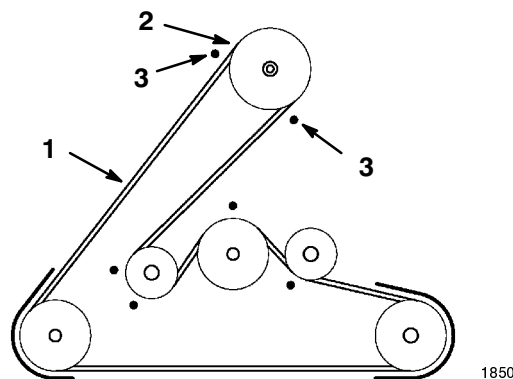

Figure 43
4. Install mower belt onto the lower engine pulley (Fig. 43). If you are careful, you can flex the belt guide(s) just far enough away from the pulley to install the belt. If it is too difficult to install the belt, loosen the bolts and nuts securing the belt guides.